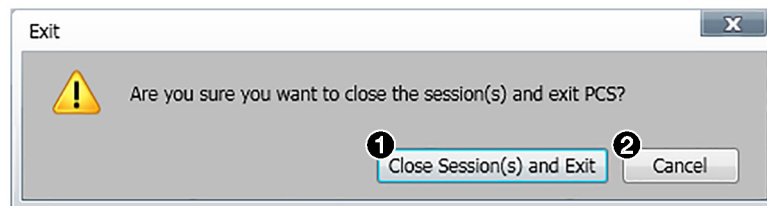

Figure 46. Exit Dialog Box
2. If necessary, click the **Close Session(s) and Exit** button (see figure 46, ①) to disconnect the software from connected devices, close all offline device tabs, and close the software. Click the **Cancel** button (②) to leave the software open.